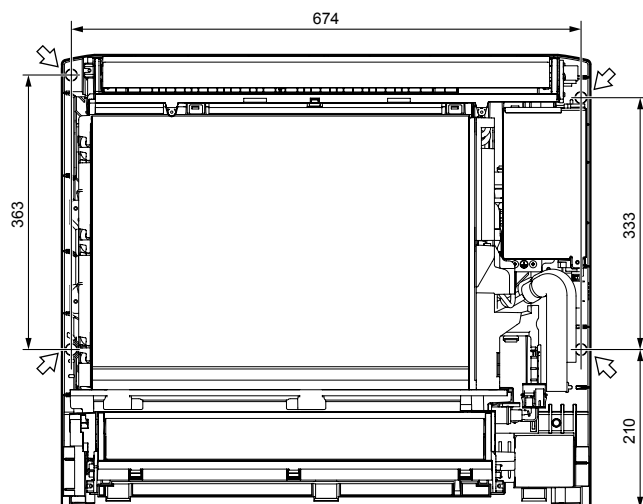

Fig. 3-5
3.3. Indoor unit installation (Fig. 3-5)